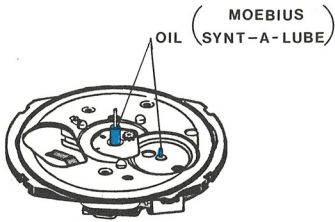

FIGURE 7
- Apply non spreading watch oil (Moebius Synt-A-Lube Oil is used in the factory) to the center post and the post for the Date Wheel Assembly (see Figure 7).